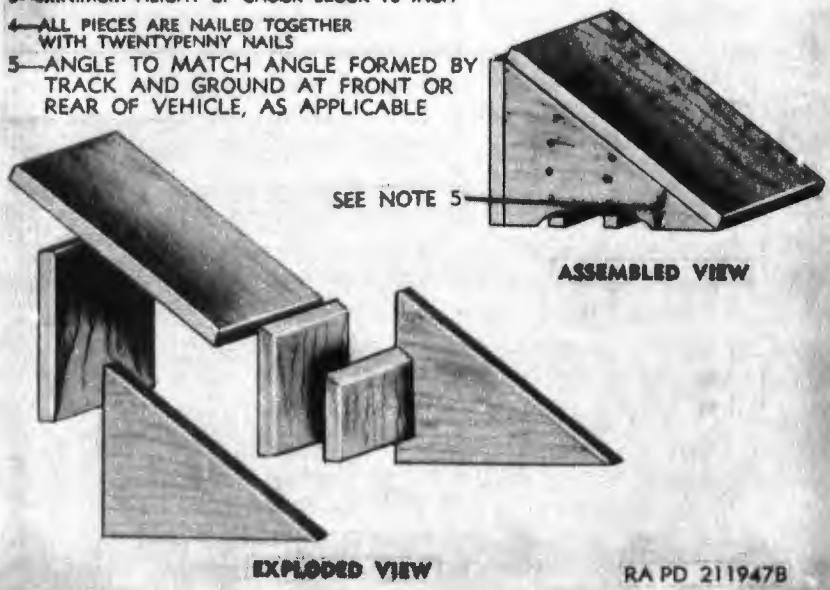

Figure 390. Details for fabricating chock blocks.
e. *Chock Blocks D (Pattern 31) and E (Pattern 30) (Two Of Each Required)*. Construct two chock blocks D and two chock blocks E as shown in figure 390. Locate one chock block D against the front of each track and one chock block E against the rear of each track. Toenail the chock blocks to floor with forty penny nails.